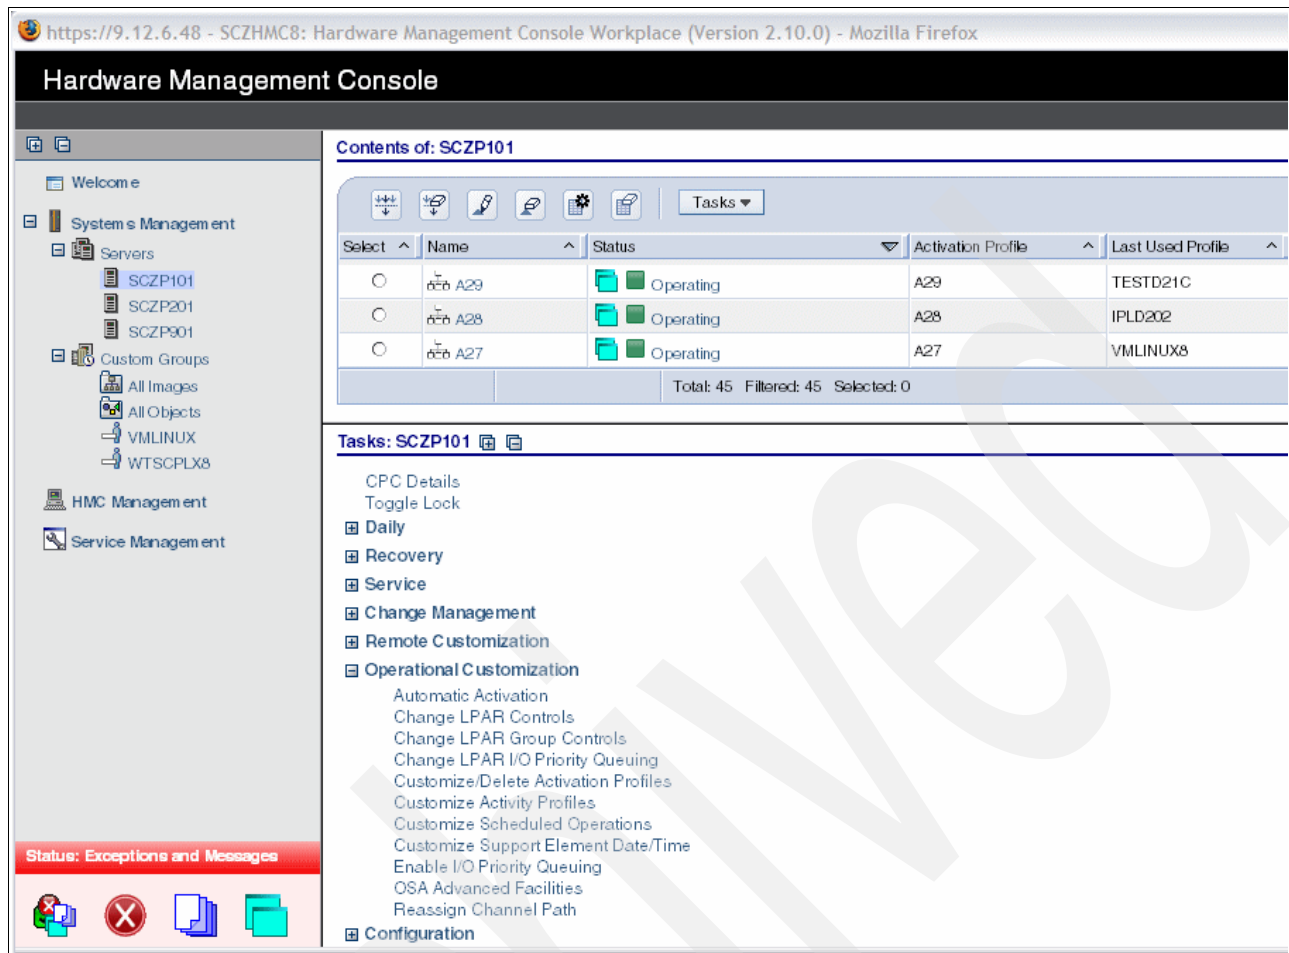

Figure 3-37 HMC - OSA Advanced Facilities (Task Menu)
- c. On the Tasks pad, click **Operational Customization** to expand it, and select **OSA Advanced Facilities** (Figure 3-37 on page 95).